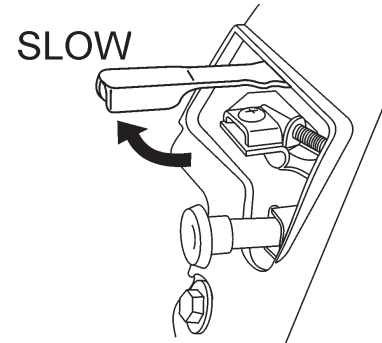

Figure 33. Throttle Lever (Slow Position)
2. Place the **engine throttle lever** (Figure 33) in the **SLOW** position, and listen for the engine speed to decrease.